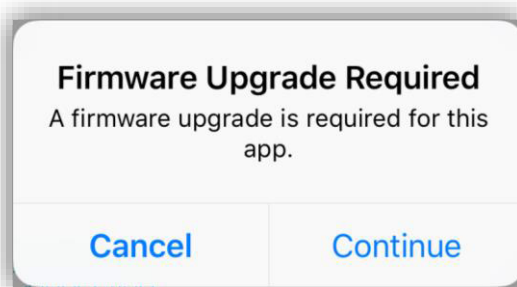

Figure 23. Firmware Upgrade
5. **Initiate Update through the FLIR UAS App.** Open the Duo Pro R app and connect to the camera. The app will read the camera's settings, then display the Firmware update message (Figure 23). Select "Yes" to begin the update. The Bluetooth light will flash purple for 30-45 seconds while it's updating, then the camera will re-boot up to two times. The total process may take a couple minutes. Wait at least 2 minutes and do not attempt to connect to the camera with the FLIR UAS app until it has rebooted and come to a steady power state.